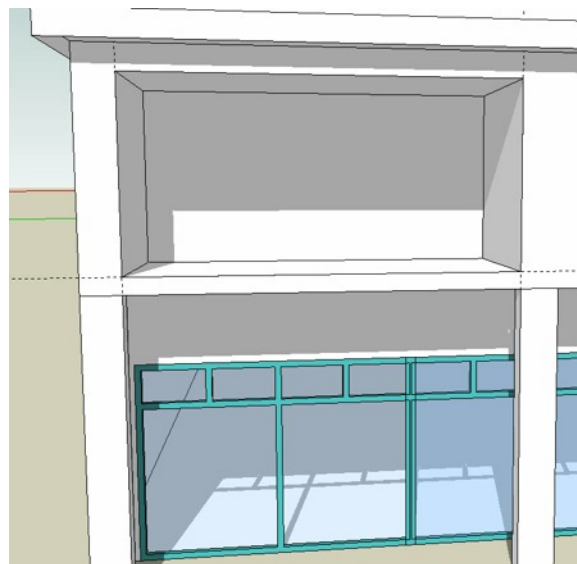

Figure 63. Balcony recess formed with the Push/Pull tool
- Using the **Push/Pull** tool select the face created by the rectangle and push it into the building by 2000mm as shown in Figure 63.